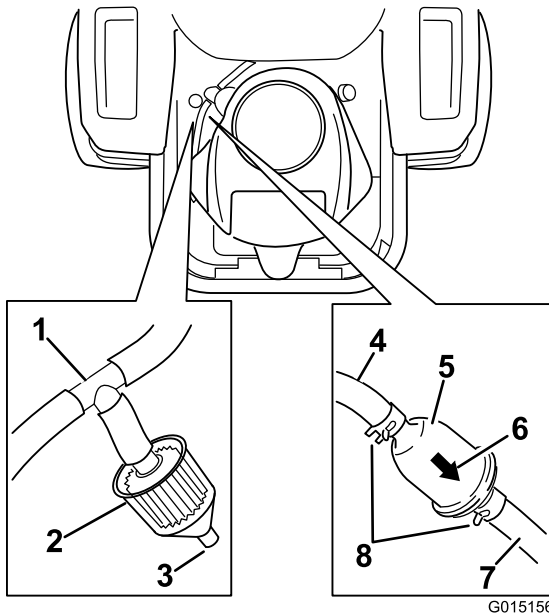

Figure 51
4. Raise the seat and locate the fuel filters as shown in Figure 51.
7. Install a new filter with the flow direction arrow coming from the fuel tank and pointing to the engine. Move the hose clamps close to the filter (Figure 51) to secure it in place.
The machine is equipped with a emissions filter (Figure 51) connected to a tee fitting on the vent line coming from the gas tank. The filter has an open port by design. The filter should be inspected regularly. Replace the filter if the filter is dirty or clogged.